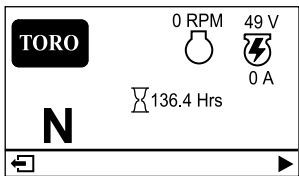

Figure 17
- Main information screen (Figure 17):** shows current machine information while the key is in the ON position.